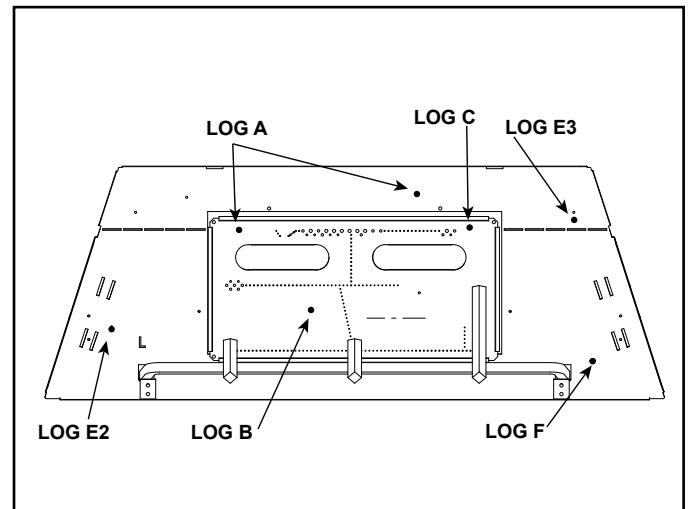
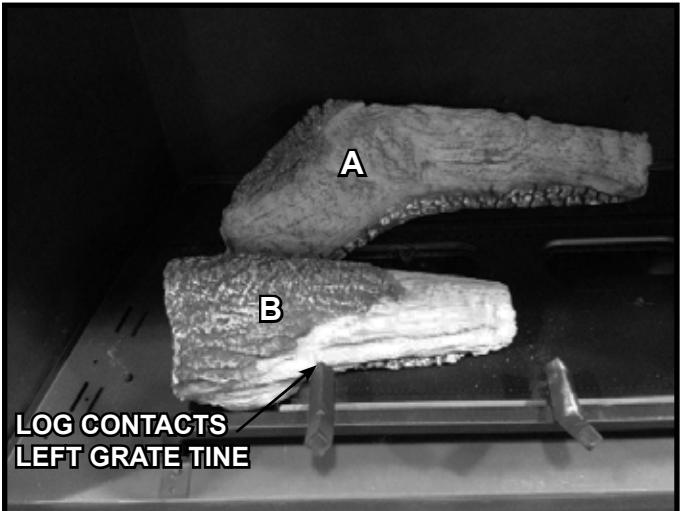
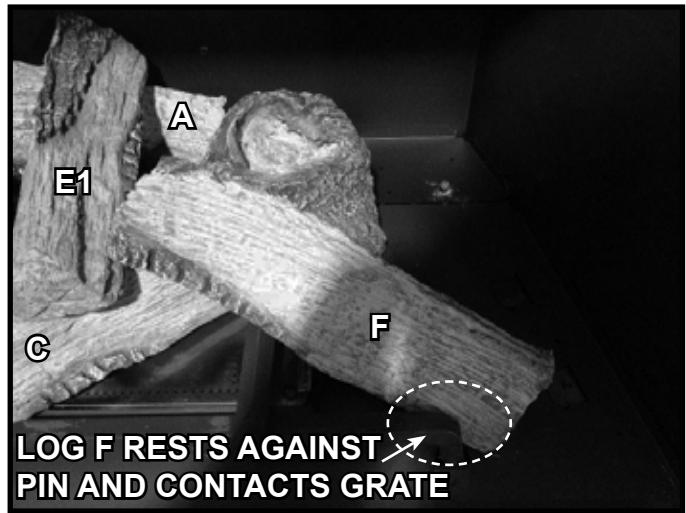
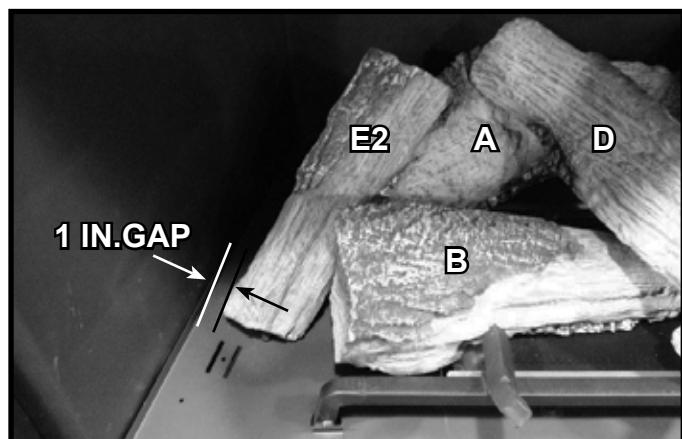

Figure 4. LOGSDBDV42 Log Pin Locations
Figure 6. Log B Installed
Figure 10. Log E Installed
Figure 11. Log E2 Installed
1. (LOG A): Locate the two pin holes on the bottom of Log A. Hold the log so that the flat spot is facing the rear of the appliance and the pin holes are facing the base pan. Place Log A over the two pins referenced for Log A in Figure 4. Refer to Figure 5.
2. (LOG B): Locate the pin hole on the bottom of Log B. Place pin hole on Log B over the pin referenced for Log B in Figure 4. Hold the log over the pin and rotate the left side of the log until it contacts the left grate tine. See Figure 6.
6. (LOG F): Place Log F into appliance as shown in Figure 10. The burned out end of the log should rest on Log C and contact Log E1. The unburned end of Log F should rest against log pin F, as shown in Figure 4, and contact the back of the lower grate tine as noted in Figure 10.
7. (LOG E2): Place Log E2 into appliance as shown in Figure 11. The base of the log should be positioned against the pin indicated in Figure 4 for Log E2. The top side should rest against Log A. The base end of Log E2 should be approximately one inch from the left side of the firebox if no refractory is present. This distance will be about 1/4 inch if the optional brick refractory is installed or 3/4 inch if the optional black glass refractory is installed.